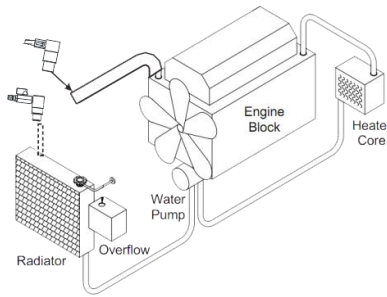

Fig.5
3. Select a pair of step adapters to connect to the two ends of disconnected upper hose, fix them with clamps; (fig.5) ;